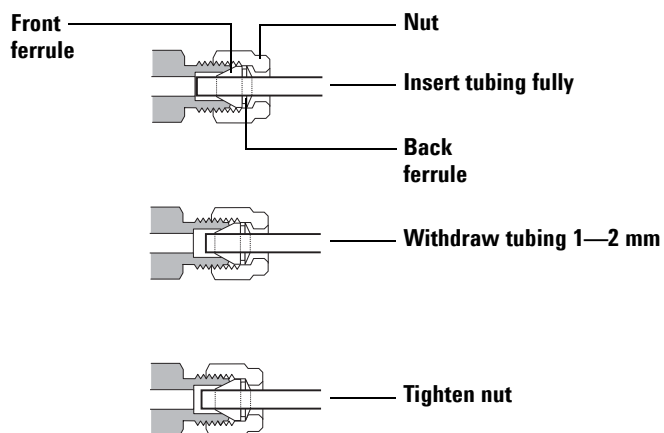

Figure 11 Insert the tubing
- 5 Push the tube fully into the plug, then withdraw it approximately 1 to 2 mm (Figure 11).